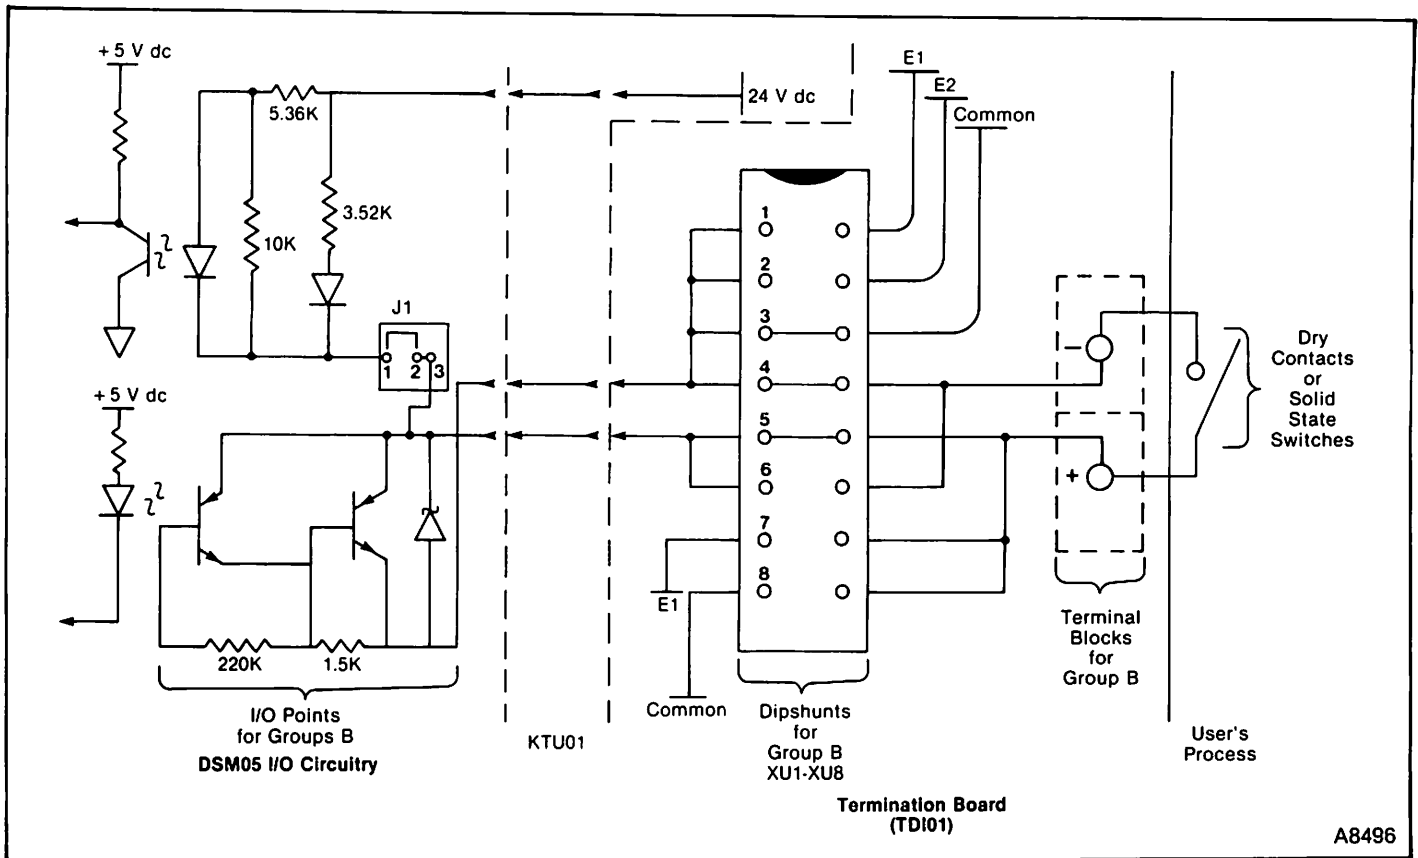

FIGURE 12 — Logic Input Set Up (24 V dc internal power)
**Building an Input System.** Building an input system for the DSM05 is simple. For example, if the I/O points in group B are inputs, set the I/O point/dipshunt/terminal block relationship as shown in Figure 12.
For a system such as that in Figure 12, the user connects dry contacts or solid state switches from somewhere in the circuitry of his process to the terminal blocks of group B. He also configures the dipshunts of group B exactly as shown in the figure. That is: